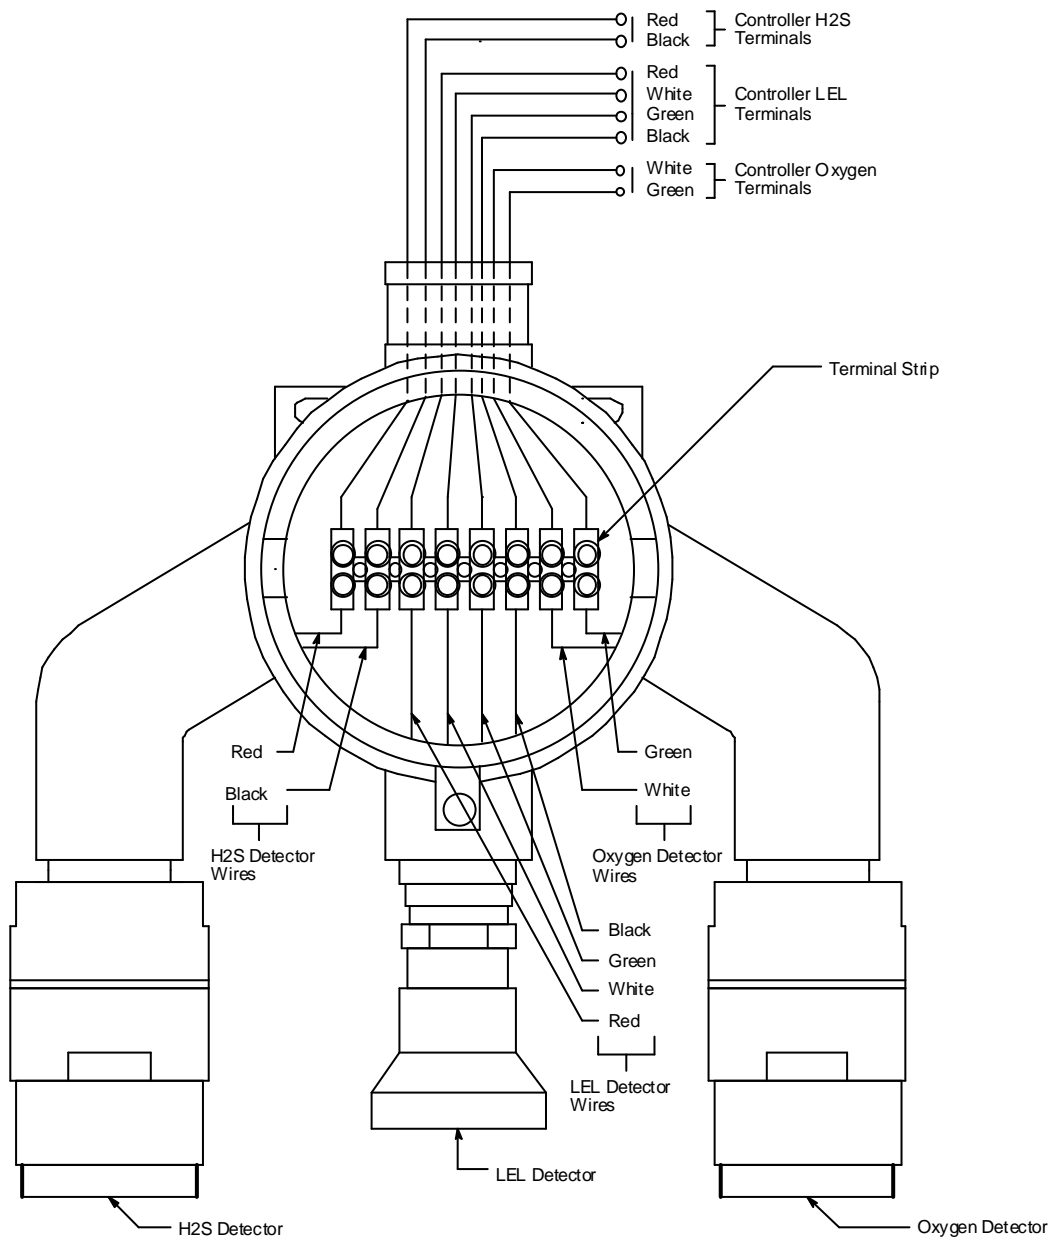
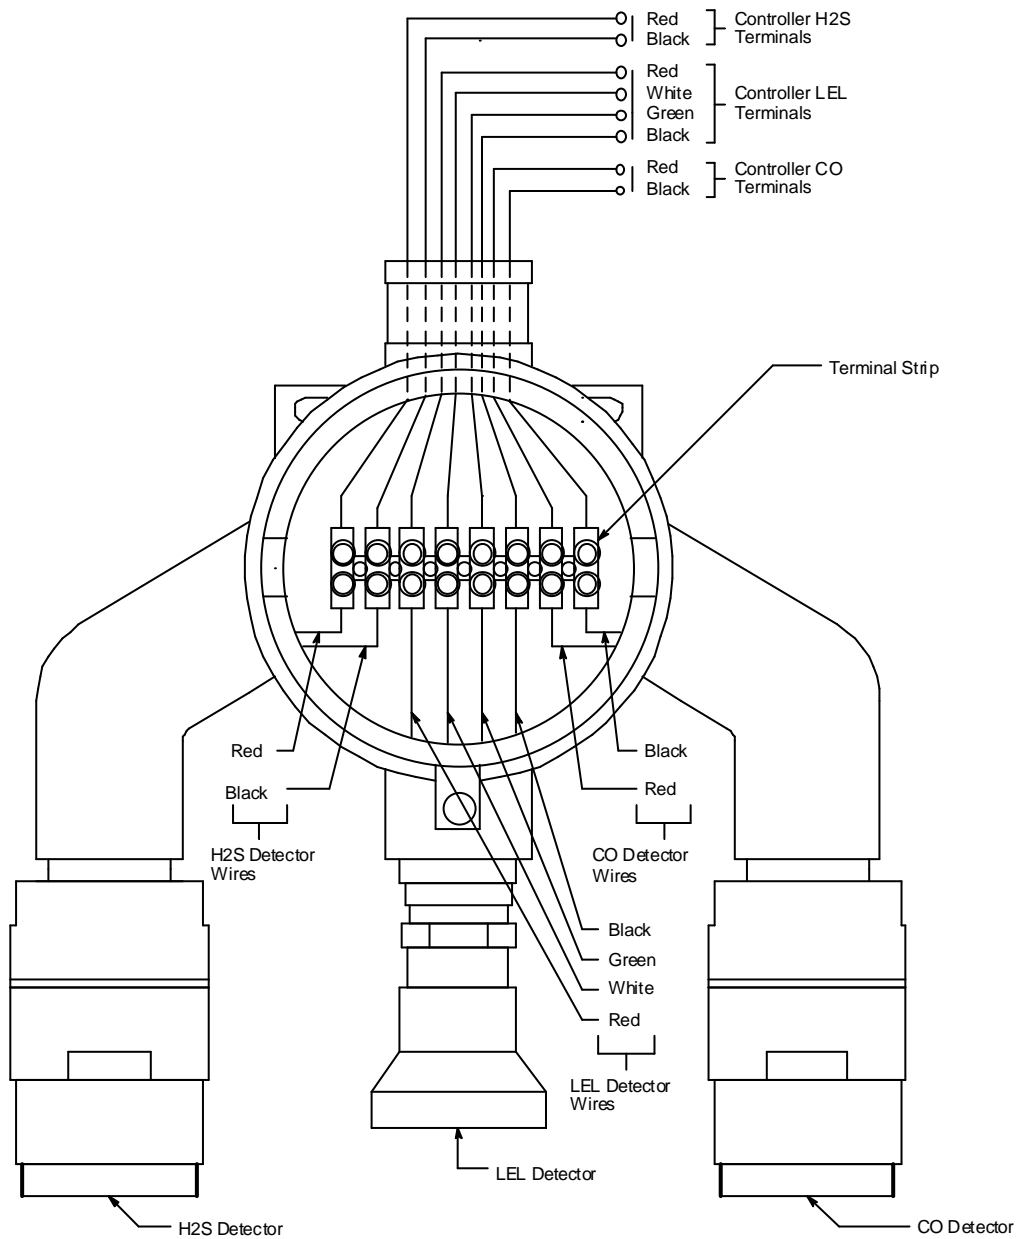

Figure 15: Wiring the 65-2480RK-01 to a Controller
Figure 23: Wiring a 65-2480RK-54 to a Controller
8. Connect the wires to the applicable controller terminal strips. See the controller operator's manual and the controller's detector head specification sheet. Also see Figure 15-Figure 23 for wiring diagrams for each detector model.
7. Connect the detector leads to the terminal block the same way the old detector was wired. See the controller operator's manual and the controller's detector head specification sheet for the LEL detector to verify the connections are correct. Also see Figure 15-Figure 23 for wiring diagrams.